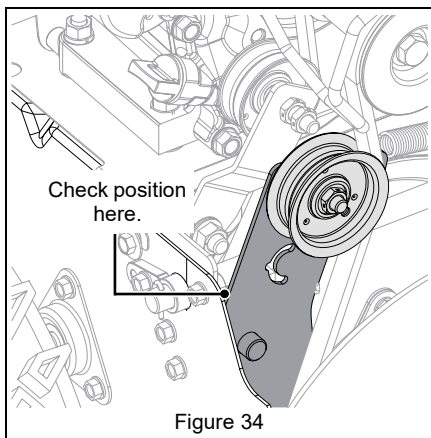

Figure 34
4. With the attachment clutch disengaged, make sure auger idler arm lightly touches the frame. See Figure 34.